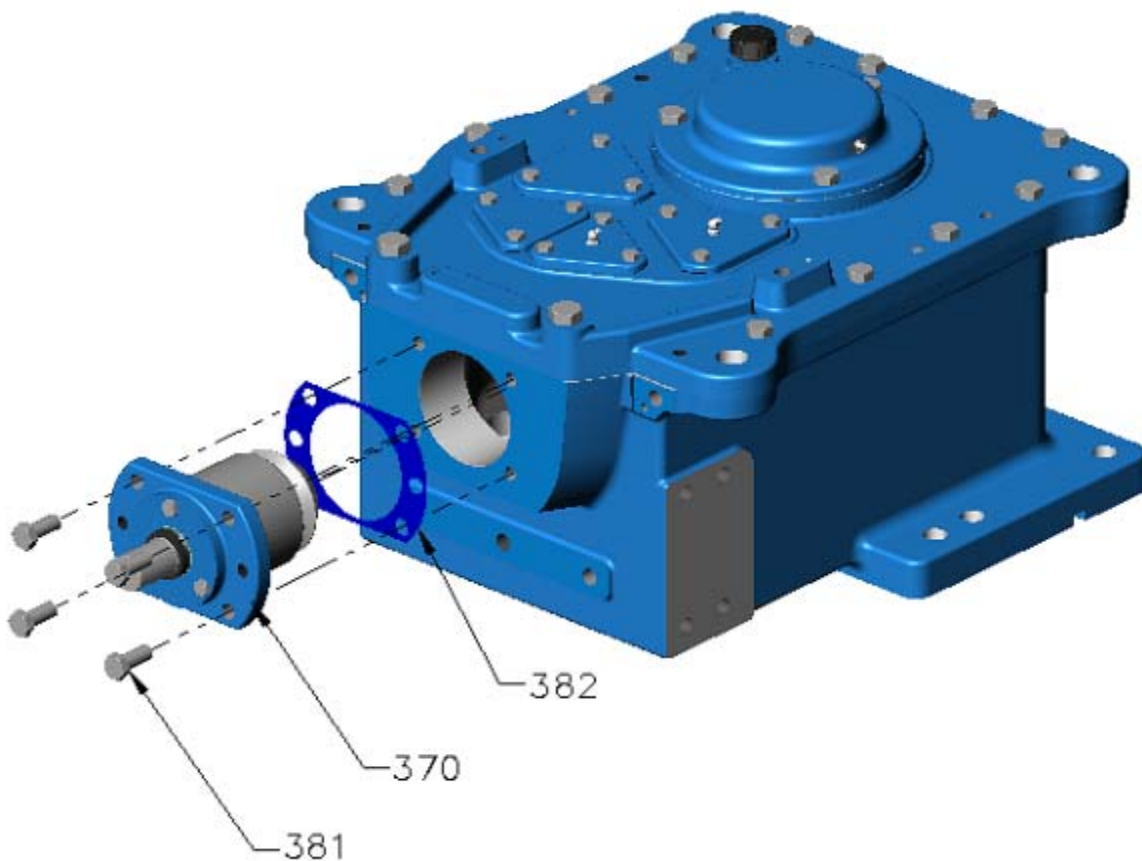

Figure 2 – Spiral Bevel Cartridge
- B. At input shaft, remove the following items (Refer Figure 2):